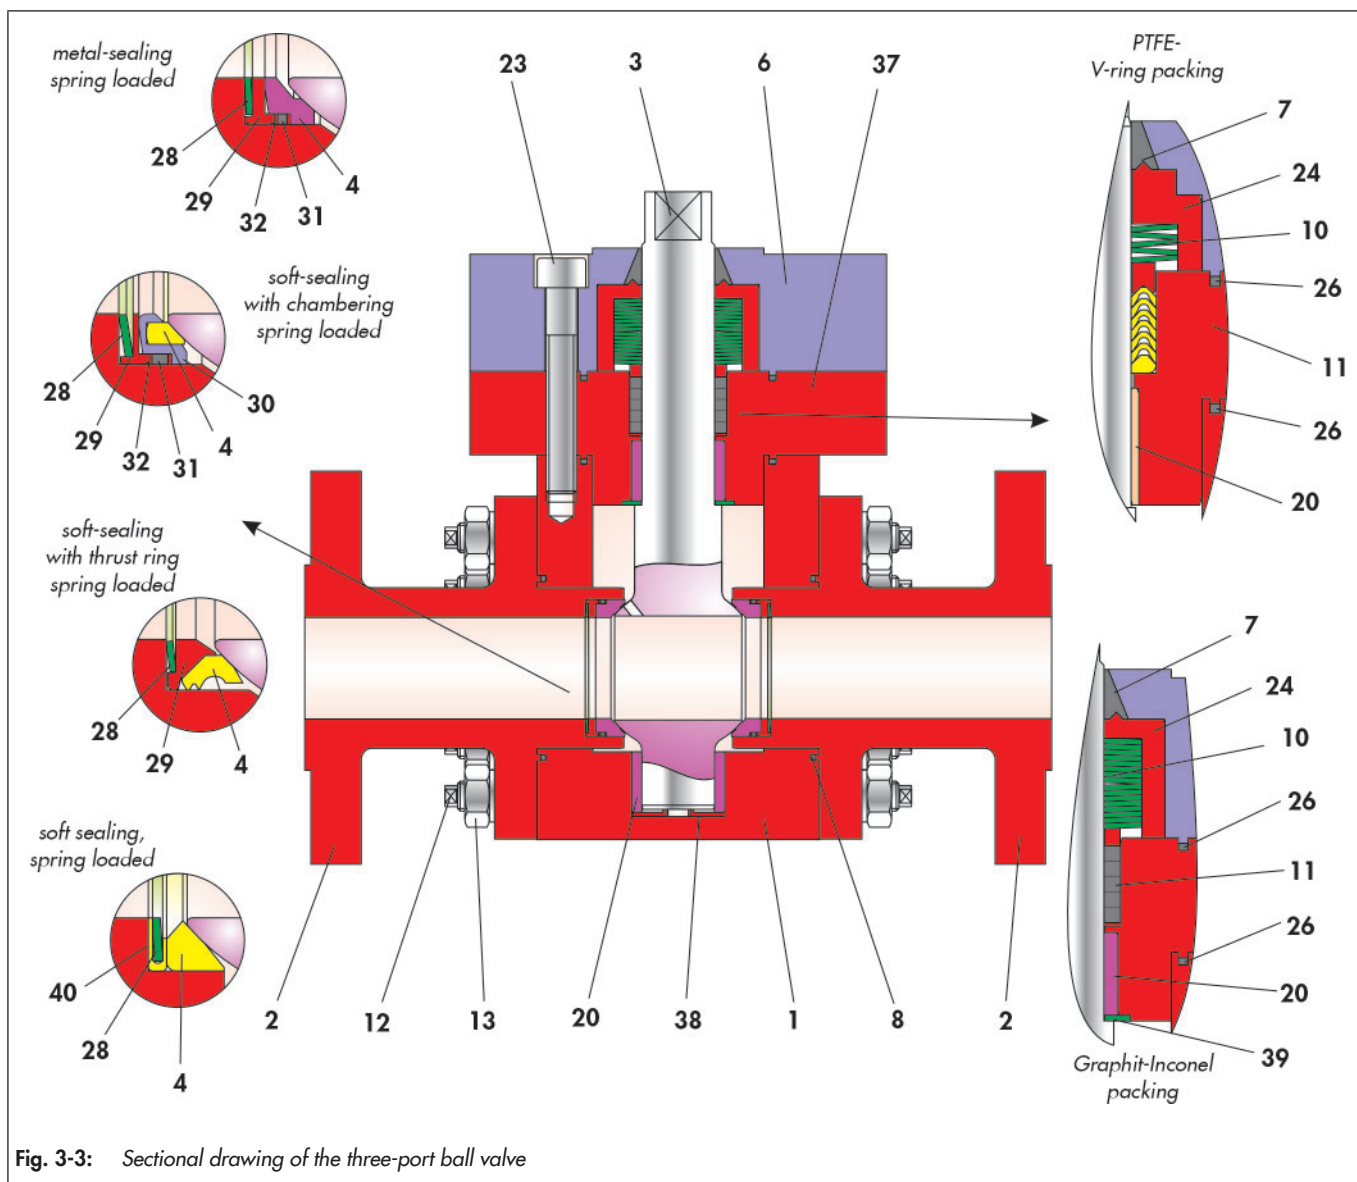

Fig. 3-3: Sectional drawing of the three-port ball valve
The position and arrangement of the individual parts shown in Fig. 3-3 must be observed during assembly.
Push the PTFE V-ring packing (11) over the shaft of the ball (3) with a slight rotating movement and insert it into the packing location of the mounted bonnet flange (37). For the arrangement of the V-rings, see Fig. 3-3.
- ⇒ Insert the ring (26) into the bonnet flange (37).
- ⇒ Place the disc spring set (10) on the packing (11). For the arrangement of the disc springs, see Fig. 3-3.
- ⇒ Push the bush (24) over the shaft of the ball (3) so that it rests on the disc springs (10) and bonnet flange (37).
- ⇒ Push the ring (7) over the control shaft (5) up to the bush (24).
- ⇒ Place the stuffing box flange (6) over the shaft of the ball (3) onto the bonnet flange (37).
- ⇒ Turn the stuffing box flange (6) and bonnet flange (37) so that the holes in the two sections are aligned with the holes in the main body (1).
- ⇒ Lightly grease the screws (23).
- ⇒ Tighten the screws (23) evenly and alternately through the holes in the stuffing box packing and bonnet flange into the main body.